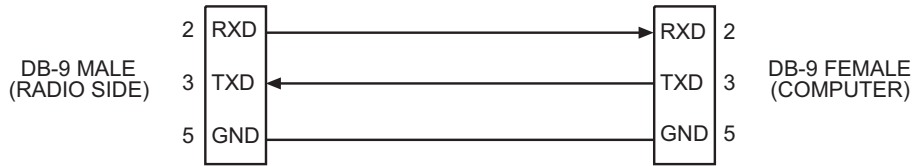

Figure 2-5. Serial Communications Cable (DB-9 to DB-9)
1. Connect a serial communications cable between the PC and the unit's COM 1 port. If necessary, a cable may be constructed for this purpose as shown in Figure 2-5.